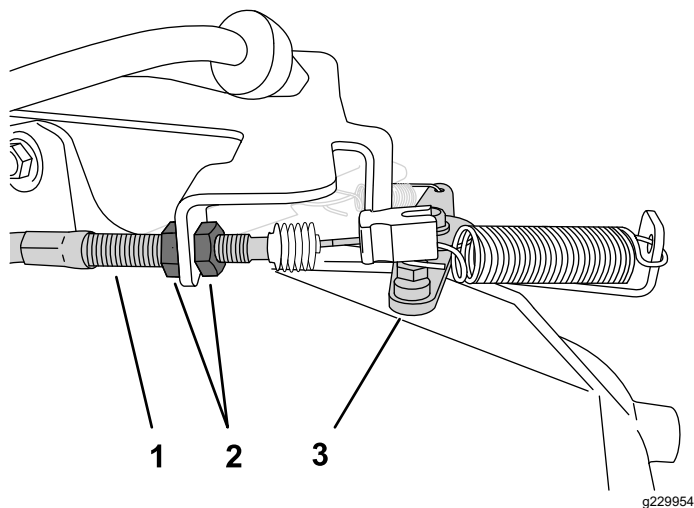

Figure 44
2. At the throttle cable housing, loosen the forward jam nut and tighten the rear jam nut to increase the low idle (Figure 44).